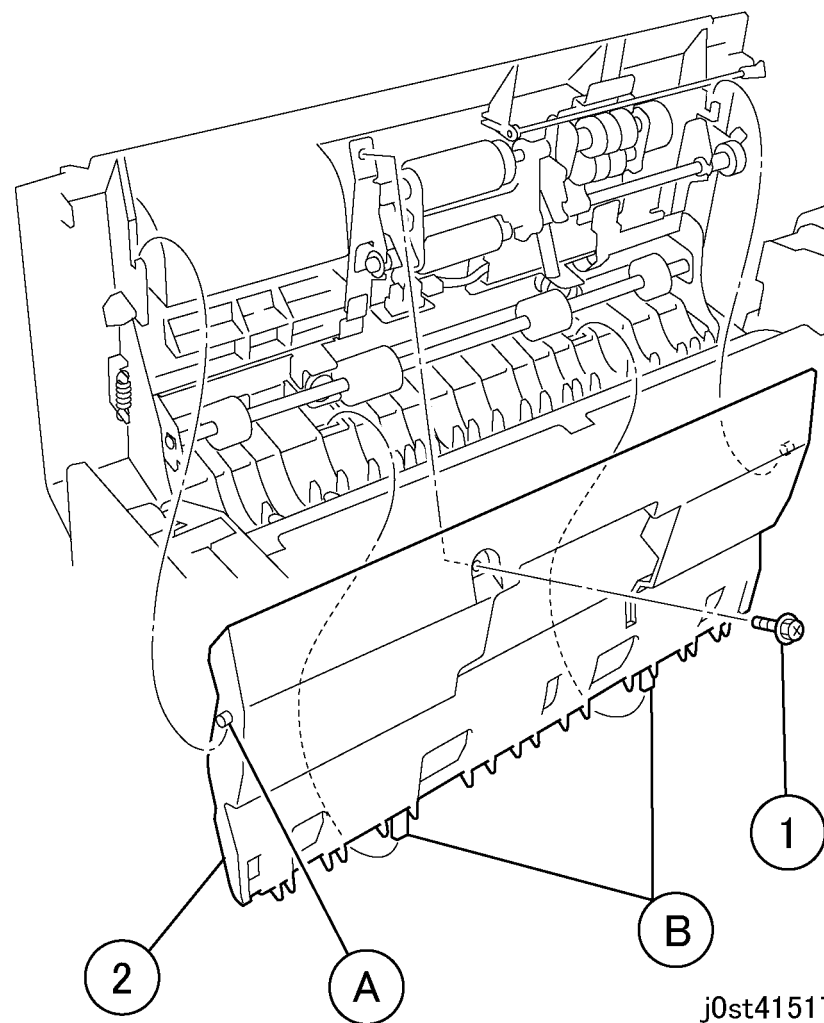

Figure 9 Installing the Feed Upper Chute
5. Observe following while installing Upper Feed Chute. (Figure 9)
- Insert the Boss into the U-groove (A).
- Insert the Tab into the Tab Slot (B).
- Install the screw (1)